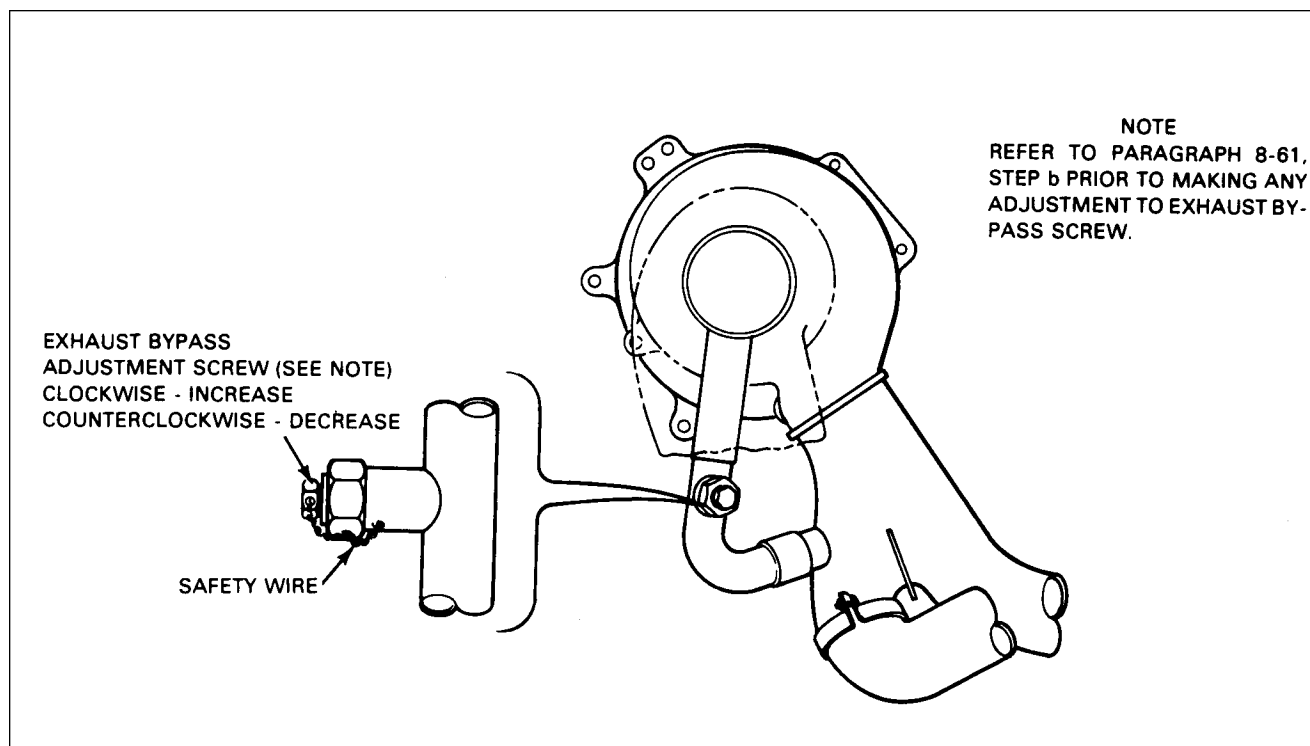

Figure 8-36. Exhaust Bypass Screw
- b. Exhaust Bypass Check: Ascertain that the exhaust bypass adjusting screw has from eight to nine threads showing below the jam nut. This screw is preset at the factory and should not require any adjustment, unless it is known that critical altitude is not correct; in this case, use procedure given in Step k. (Refer to Figure 8-36.)